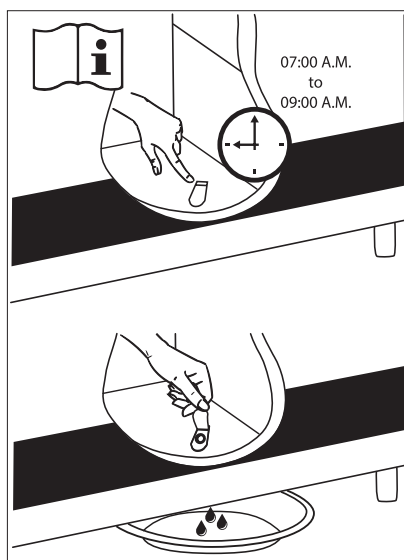

fig. 16
3. Place a tray under the condensation water drain. If the appliance has an auto-drainage system, no need for tray. See fig. 16